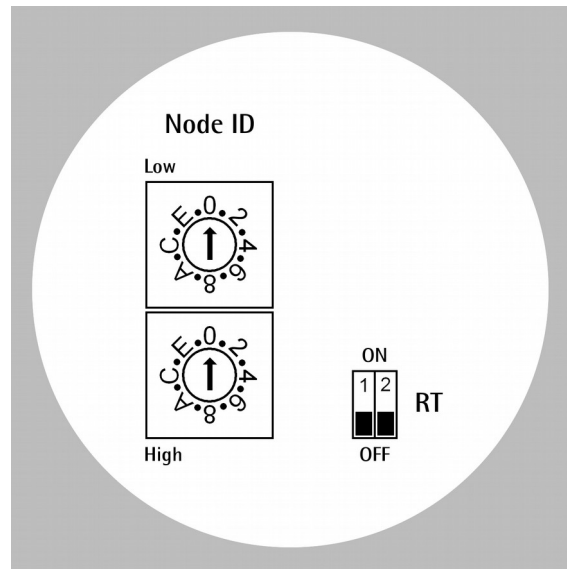

Figure 7: DIP switches
The MODBUS address is according to the DIP switch setting. To set the node address of the RD6 device refer to the "4.4.1 Setting the node address (Figure 7)" section on page 38. See also the "8.2 "Serial configuration" page" section on page 99.
4.4.1 Setting the node address (Figure 7)
4.4.3 RT bus termination (Figure 7)